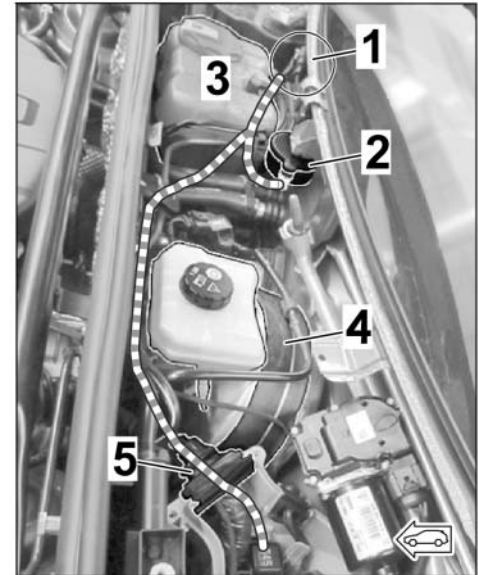

Figure 22
- **Left-hand drive:** (⇒ *Figure 22*) Engine noise control unit/pulse sender → underneath coolant reservoir → underneath brake booster → sleeve on fuse box (E-box) in cowl panel (left side)